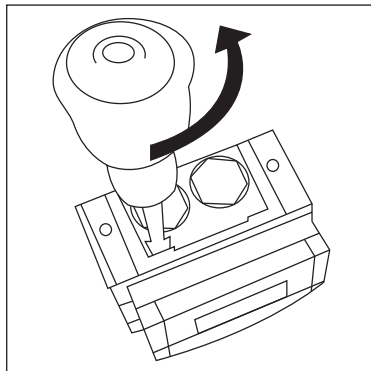

Fig 3 Cover removal
4. To remove the cover, undo and remove the four cover fixing screws. The four retaining clips also need to be released. To do this place a flat bladed screwdriver into the slot between the cover and backbox and gently twist until the clip disengages (Fig 3). Repeat this for the three remaining clips and pull the cover away from the backbox.